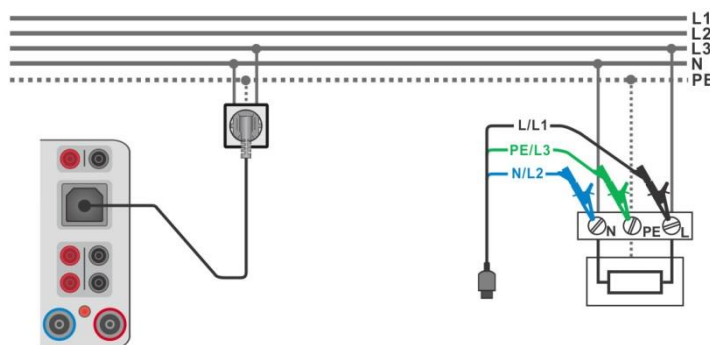

Figure 6.66: Connection of Plug test cable or 3-wire test lead
- Connect 3-wire test lead or Plug test cable to the object under test, see **Figure 6.66**.